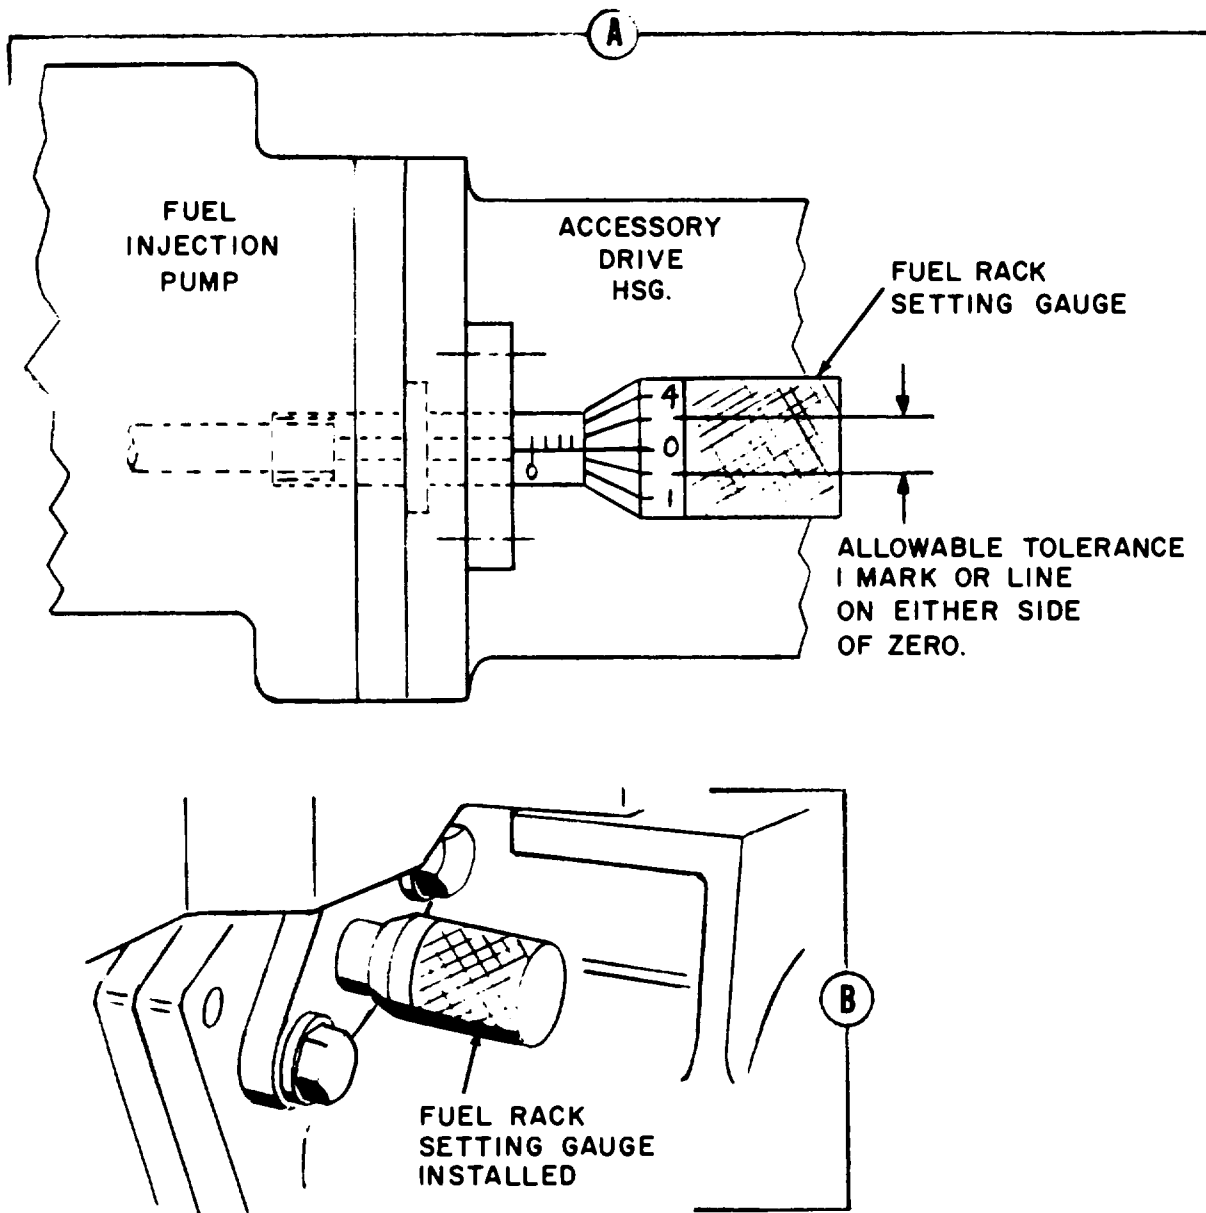

Figure 8-37. Installing fuel rack setting gauge
5. Turn micrometer dial clockwise until the leading edge of the rotating dial lines up with NO. 1. on the non-rotating shaft and #0 on the rotating dial. Refer to figure 8-37 (view A).
8. To check adjustment, turn the rack setting tool micrometer dial a few turns counterclockwise. Rotate shaft (33) back and forth a few times and end up rotating shaft (33) clockwise and hold in full fuel position. Rotate micrometer dial on rack setting tool clockwise until it contacts fuel injection pump rack. Dial should be reading +1 on the shaft and "0" on the rotating dial. Refer to figure 8-37 (view A) for allowable tolerances.
9. If reading is not within indicated tolerances (figure 8-37, view A), repeat procedure starting with step 5.